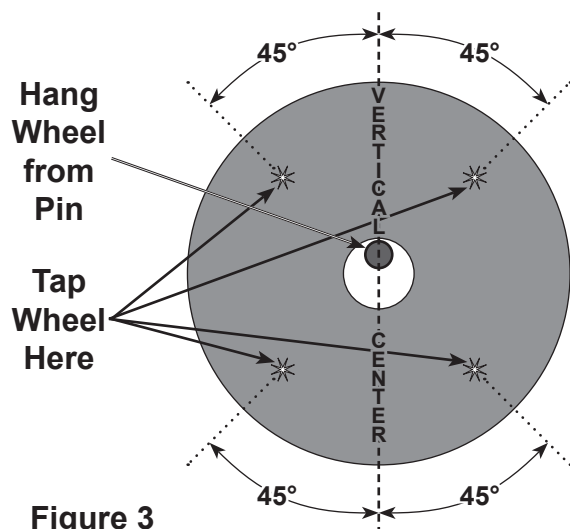

Figure 3
2. Tap the flat side of the blade with a light non-metallic object, such as a screwdriver handle, at a point 45° from the vertical center line on each side of the blade and 1 – 2 inches from the edge of the blade - See Figure 3.